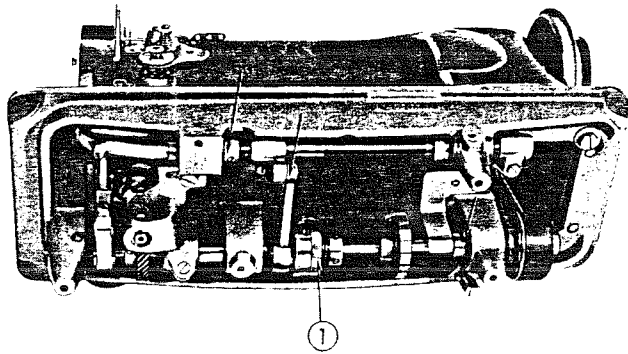

Fig. 5
The graduation of stitch length is marked on the feed graduation plate attached to the upper main shaft (Fig. 12 ①). To adjust the stitch length, rotate the hand wheel slowly as you keep on pressing the push-button (Fig. 12 ②) atop the bed until the tip of the push-button enters the groove (Fig. 5 ③) of the eccentric cam mechanism. When it is entered, rotate the hand wheel either towards you or away from you as you keep pressing the push button until the desired stitch length mark on the graduation plate appears on the hole of the arm (Fig. 12 ④). When the desired stitch length mark appears on the hole, release the push button.